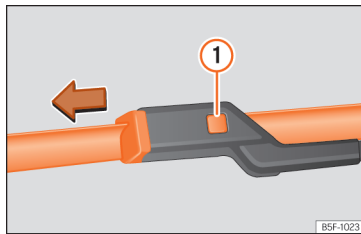

Fig. 51 Changing the windscreen wiper blades
- Press and hold release button »» Fig. 51 ❶ and pull gently on the wiper blade in the direction of the arrow.